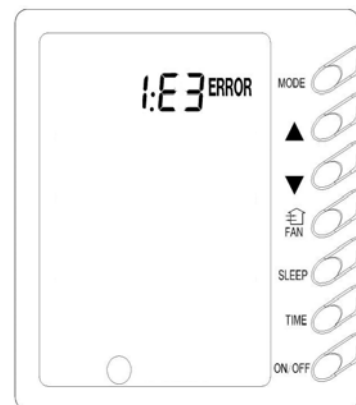

Fig. 7-13
7.3 Display of Errors (Fig. 7-13)
When an error occurs in the system, the ERROR icon on the wired controller will blink and the error code will be displayed as well. In case multiple errors occur in the system, the wired controller will display the error codes cyclically. The first digit indicates the system number, but the system will not be displayed if there is only one system. The last two digits are the error code. For example, Fig. 7-13 indicates that the compressor of the system 1 is under low-pressure protection.